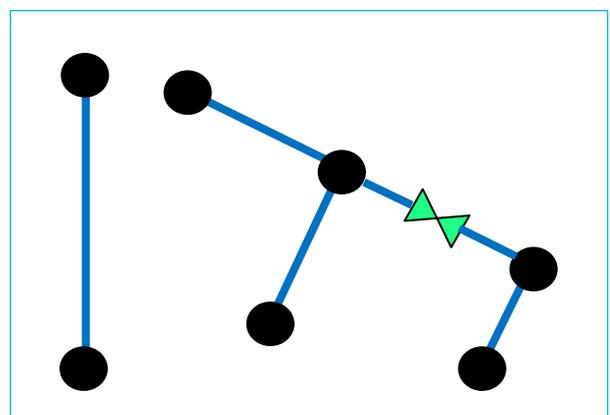

Figure 4 – Orphan Facility
- Orphan facilities: A pipe not connected to anything else. See Figure 4.